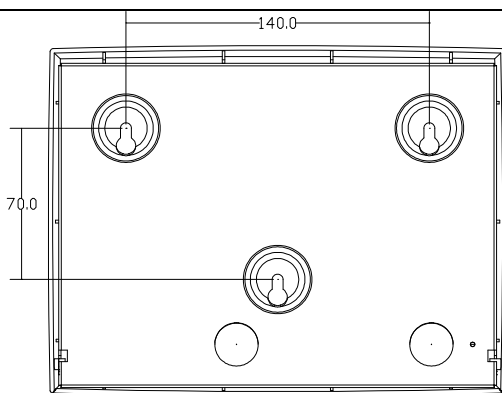

Fig. 4 Dimension (In: mm)
2. Mark the drillings for the 3 dowel openings on a flat wall, drill the holes, put expansion bolts in and insert the screws loosely (Fig. 4).